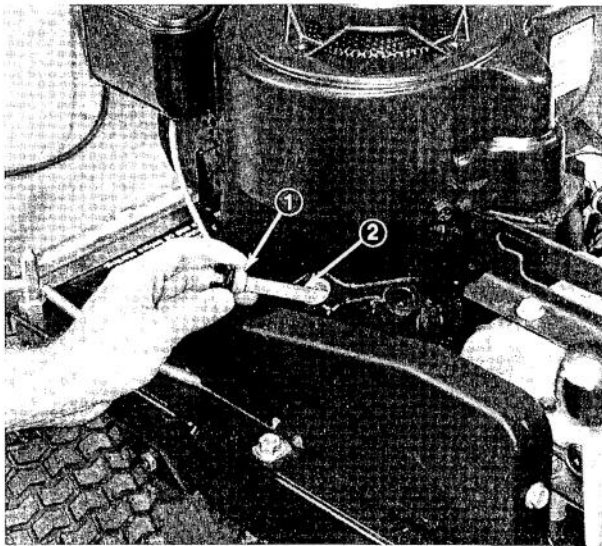

Figure 5
3. Remove dipstick plug from crankcase (Fig. 5).
4. Slowly, pour approximately 27 ounces (.80 l) of oil into crankcase (Fig. 5). The Tecumseh engine uses any high quality detergent oil having the American Petroleum Institute — API — "service classification" MS, SC, SD or SE. Oil viscosity — weight — must be selected according to anticipated ambient temperature.
mark on dipstick (Fig. 5). If level is low, add only enough oil to bring level up to FULL mark.